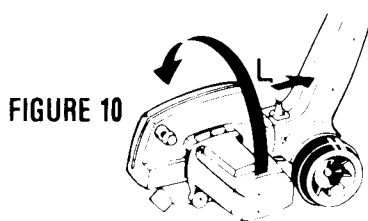
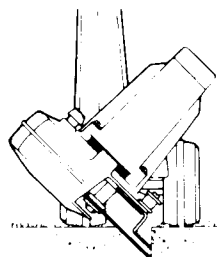

FIGURE 10
FIGURE 11
2. Push button “L”, Figure 10, in direction of arrow, holding it back momentarily as you start to rotate the cutting head. Release the button, continue rotating, and the cutting head will snap into a locked, 45° position for TRENCHING. In this position (Figure 11), the tool will cut a “V”-shaped trench along the edges of flower and shrubbery beds, and around trees in preparation for sod removal. Be careful not to tip the front of the tool too far downward or it will dig too deep and stall the tool.